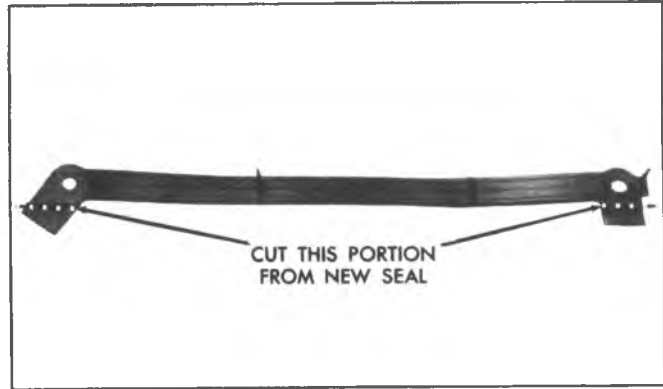

Fig. 6A1-22—Oil Pan Front Seal Modification - L25
4. Install Tool J-23523 to damper and turn puller screw to remove damper (fig. 6A1-21).